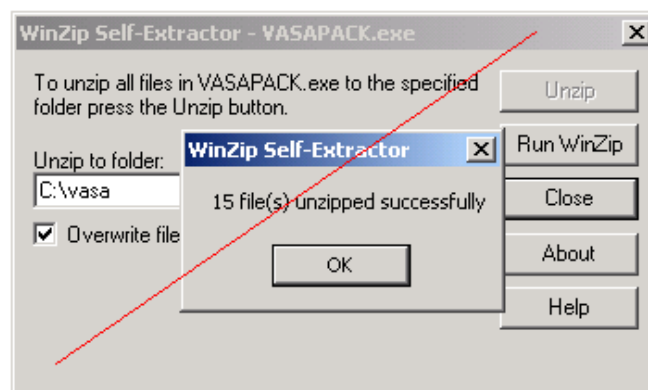

Figure 9: Successful unzipping of VASA
Step 9: After the computer operates for a brief moment, a window similar to figure 9 should appear. Click once on the **OK** button.